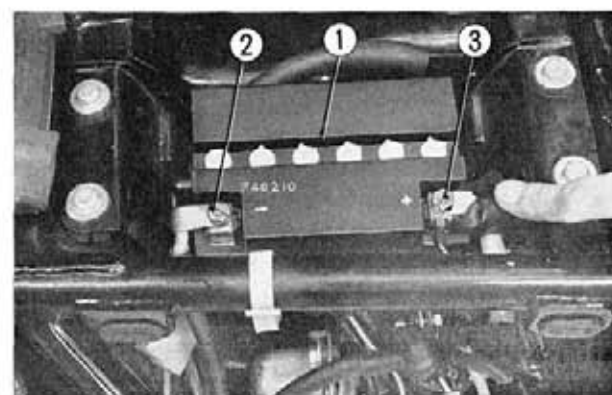

Fig. 10-1 ① Battery ③ \oplus terminal
2. Disconnect the ground \ominus negative cable connection first and the positive \oplus last. (Fig. 10-1)